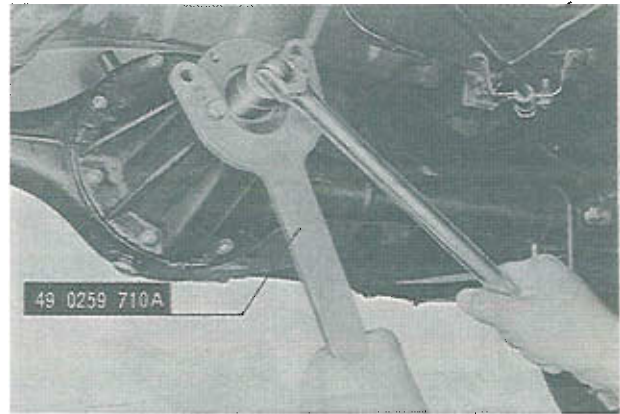

Fig. 9-12 Removing of pinion nut
4. Using the **companion flange holder** (Part No. 49 0259 710A) shown in Fig. 9-12, remove the pinion nut and washer.